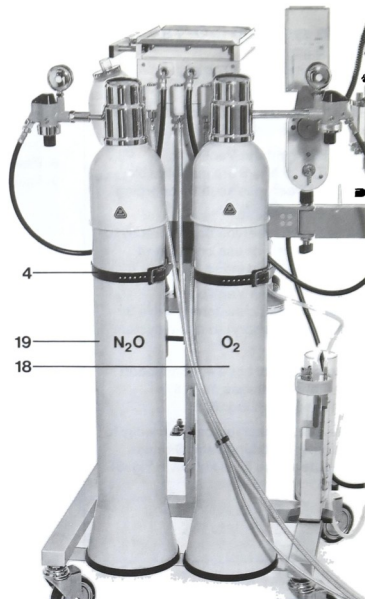

Fig. 5 Sulla 808: Back view, with large cylinders
- Connection of 11 L cylinders (for Sulla 808, see Fig. 5; for Sulla 808 V, see Fig. 7).